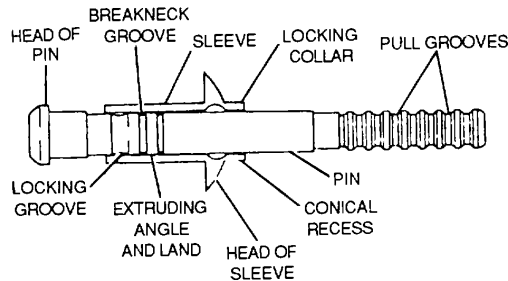

Figure 2-57. Huck Rivet
(3) *Huck rivets.* Huck rivets consist of two parts: a hollow sleeve made of 5056-H14 aluminum alloy having a universal or countersunk head with a conical recess and locking collar at the other end, and a pin made of 2024-T26 aluminum alloy which is pressed into the sleeve. The pin is provided with an extruding angle and land to expand the sleeve for hole filling, a breakneck groove, and a head. The pull grooves on the protruding end of the pin fit the jaws of the rivet tool. The rivet is shown in figure 2-57.